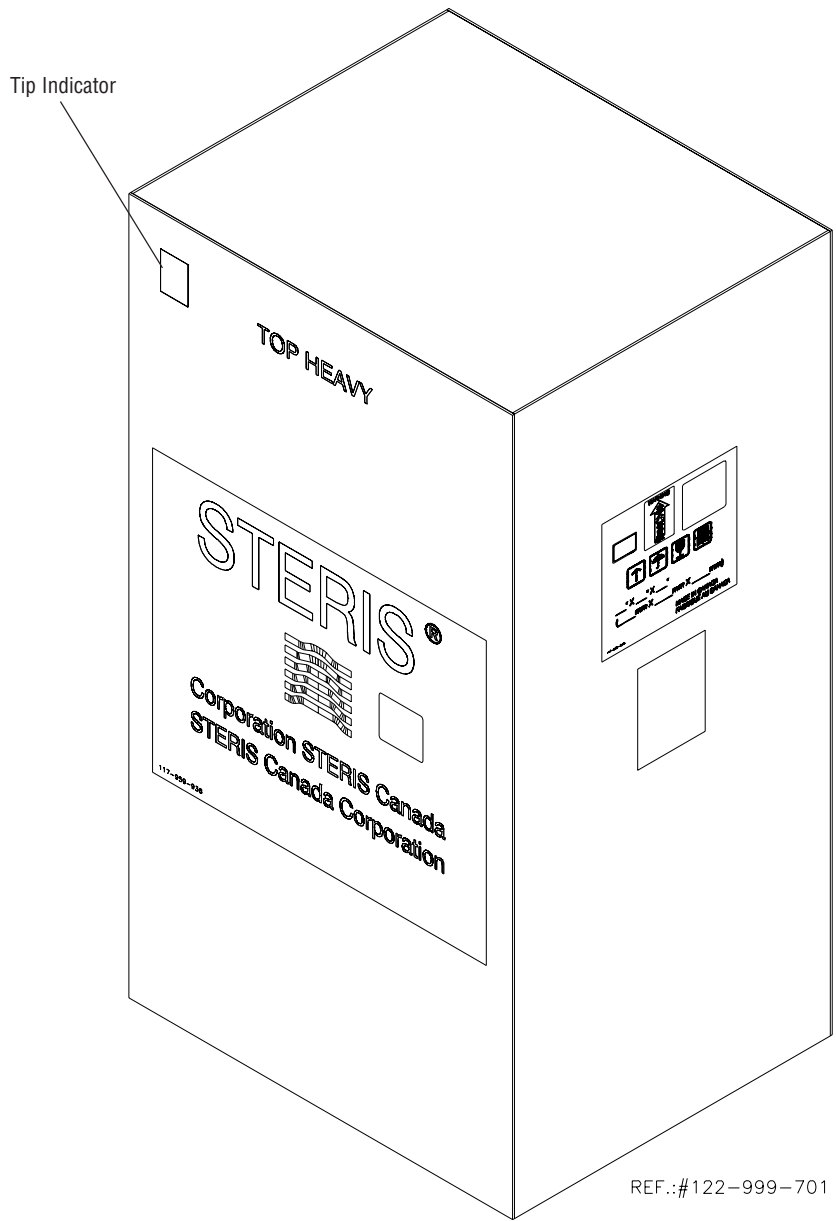

Figure 2-1. Crate
1. Check Tip Indicator, located on upper left side of crate (see Figure 2-1). Tip Indicator contains a blue compound at the bottom of the indicator. If unit has been tipped, residue from the blue compound will be found higher up in the indicator.